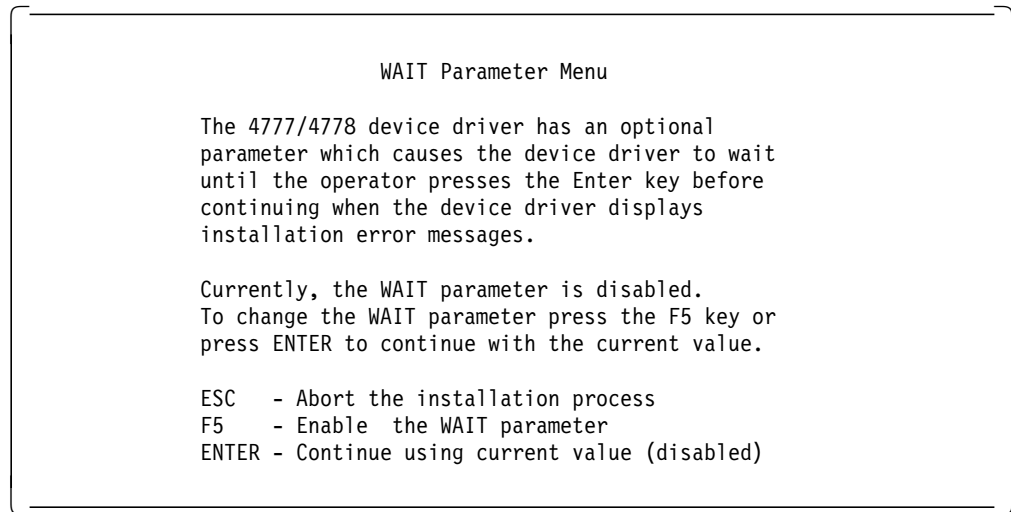

Figure 71. WAIT Parameter Menu
4. Press Enter and Figure 71 will be displayed.